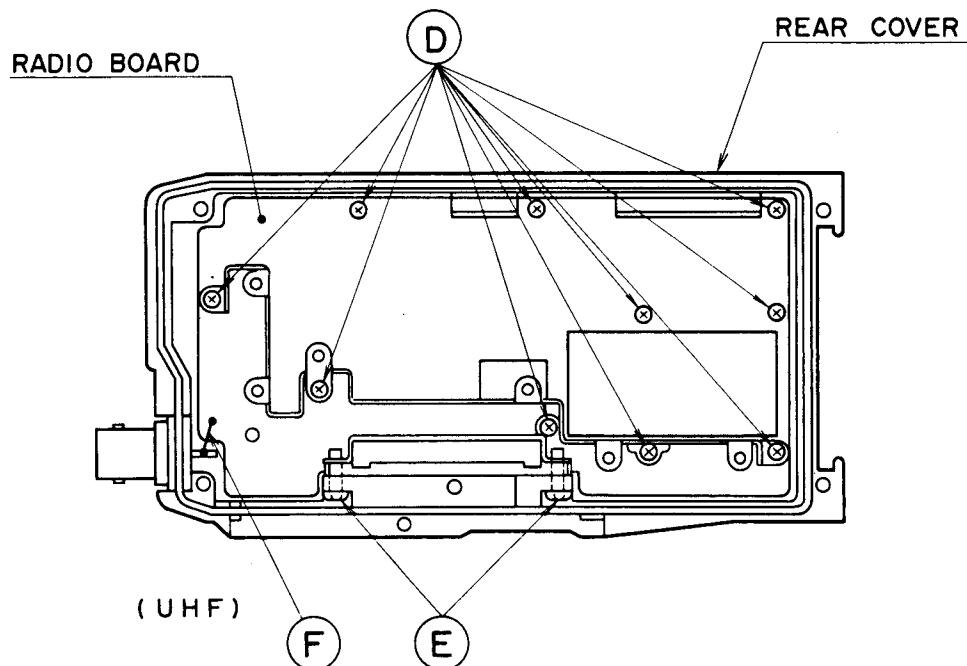

FIGURE 17 - DISASSEMBLY STEP 3
The radio portion can now be detached from the rear cover. Remove the ten (10) screws at **(D)**. Remove the two (2) screws at **(E)**. Unsolder the wire connected to the antenna connector at **(F)**. Remove the radio board from the housing (see Figure 17).